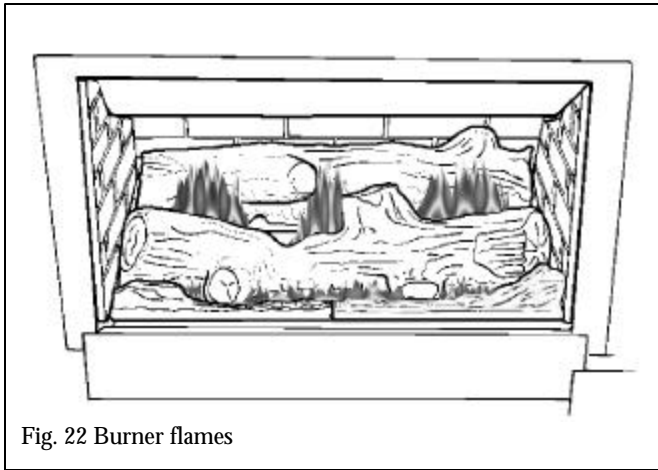

Fig. 22 Burner flames
- 21.1** A periodic visual check of the pilot and burner flames should be made (see figures 22 & 23).